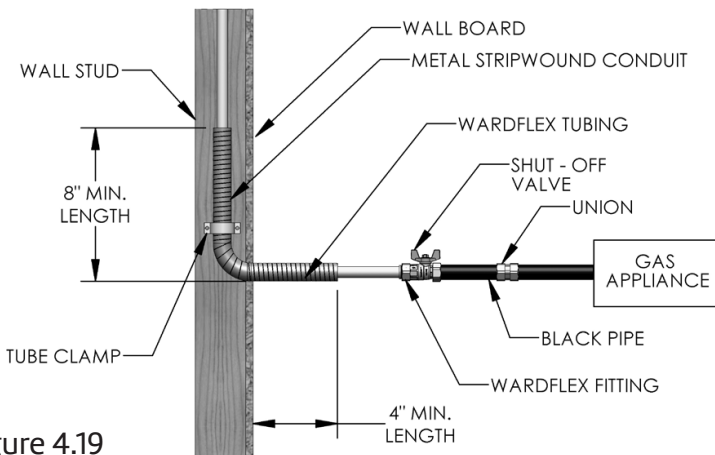

Figure 4.19
- A. WARDFlex®/WARDFlex®MAX can be directly connected to a non-moveable appliance such as a furnace or water heater (Figure 4.19 - be sure to check with local code if this is acceptable prior to installation).